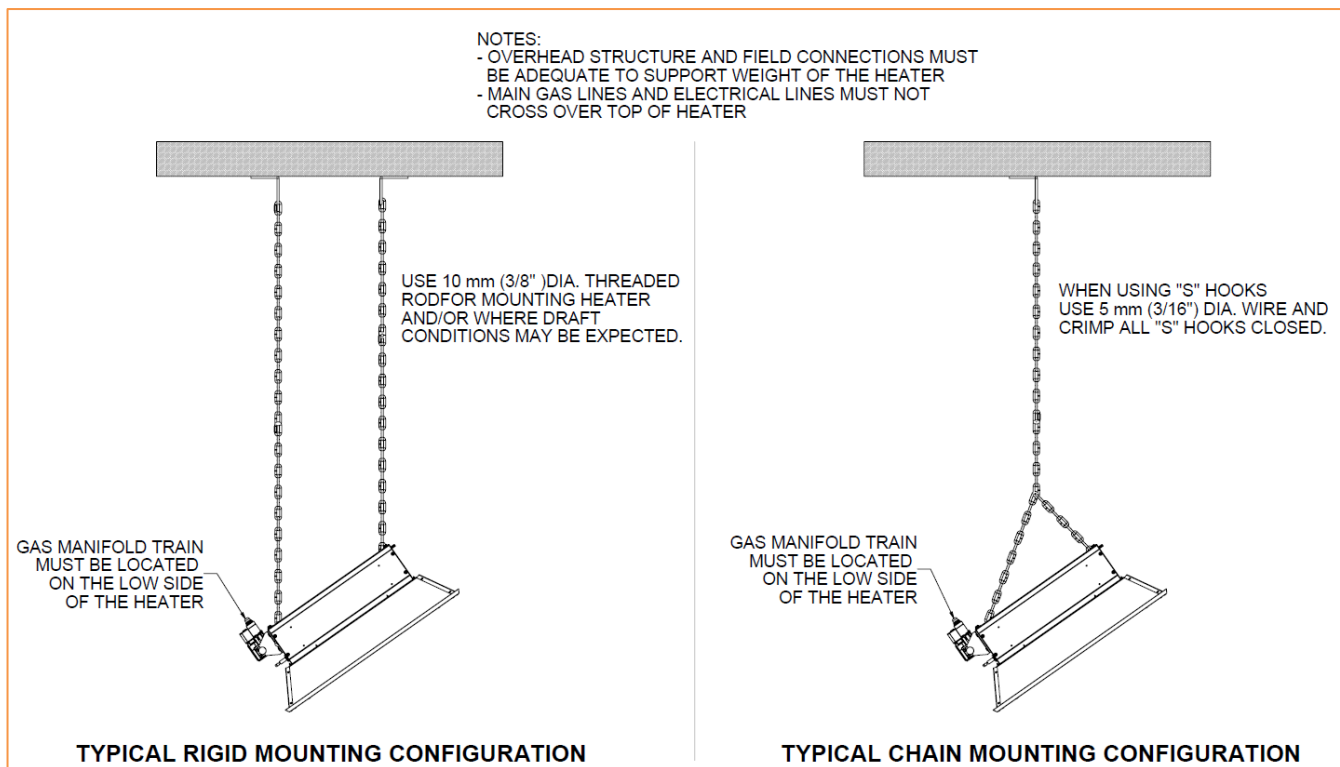

Figure 3: Mounting Configurations
- Figure 3 illustrates typical rigid and chain mounting configurations for the Series SDE heaters; verify which is permissible by local codes.